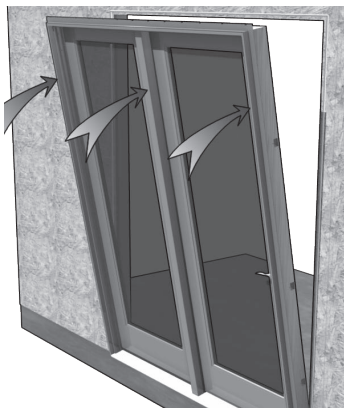

Figure 5
**1e) (Required)** With the door(s) closed, place the door unit into the rough opening. Center it from side to side. With an approved fastener (listed on page 1), fasten the door through the nailfin through a hole nearest the top center. (See figure 5)